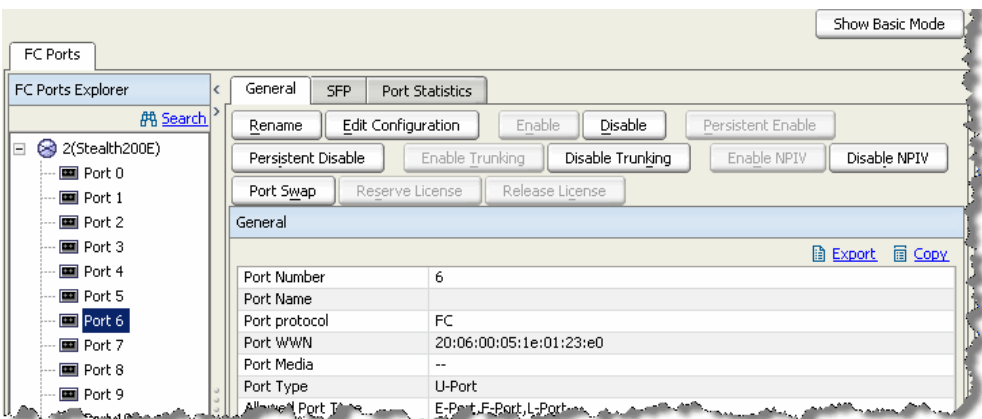

FIGURE 34 Port Administration window, FC Ports General Advanced mode detail
- If you select a port, the system displays detailed information about the port (see Figure 34).